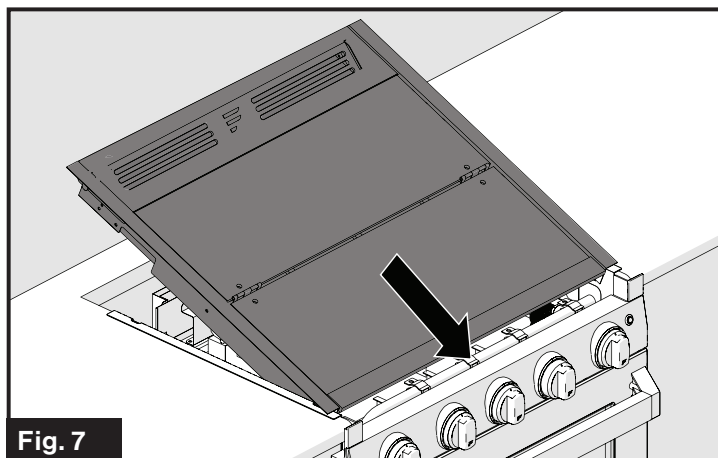

Fig. 7
1. Align the top glass cover assembly with the slots on the cooktop and place it into the range oven. (Fig. 7)